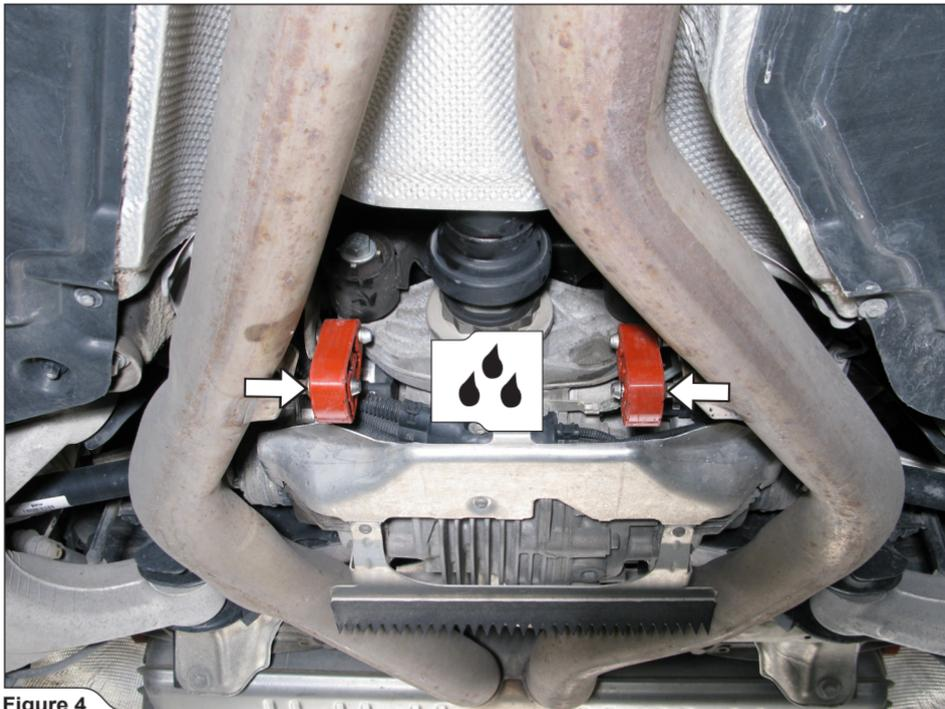

Figure 4
4. Carefully pull the rubber brackets off the middle pipes brackets, using flat pry bar (Figure 4).